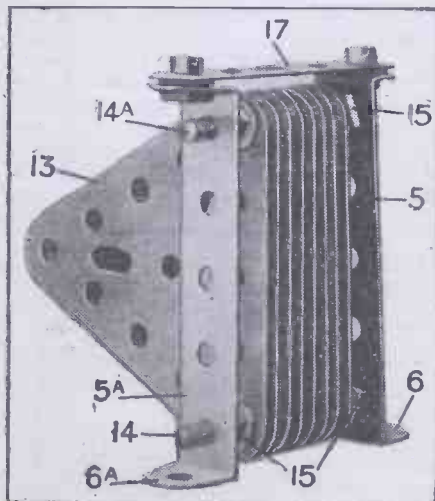

Fig. 2.
It is made by connecting together eight 2½-in. Meccano triangular plates at the lower end by a 2-in. threaded rod (14, Fig. 2),
The fixed portion of the condenser (Fig. 2) may now be fastened in position between 2½-in. and 1½-in. angle strips (5 and 5a). A 2½-in. strip (17) is bolted at the top with a spacing-washer at each end, and extra nuts (15) are threaded to both ends of the rods (14 and 14a) to centralise them. The strips 5 and 5a are then secured to the plate at 6 and 6a by two No. 6 B.A. bolts, with